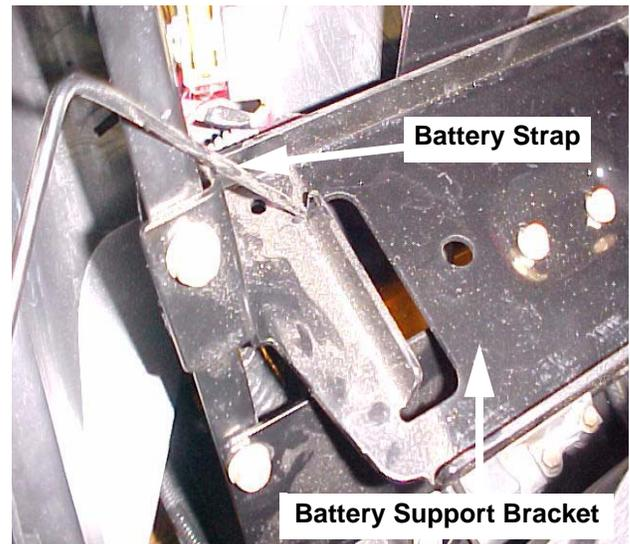

FIGURE 25
46. Install the battery strap in the slot of the battery support bracket. See Figure 25.